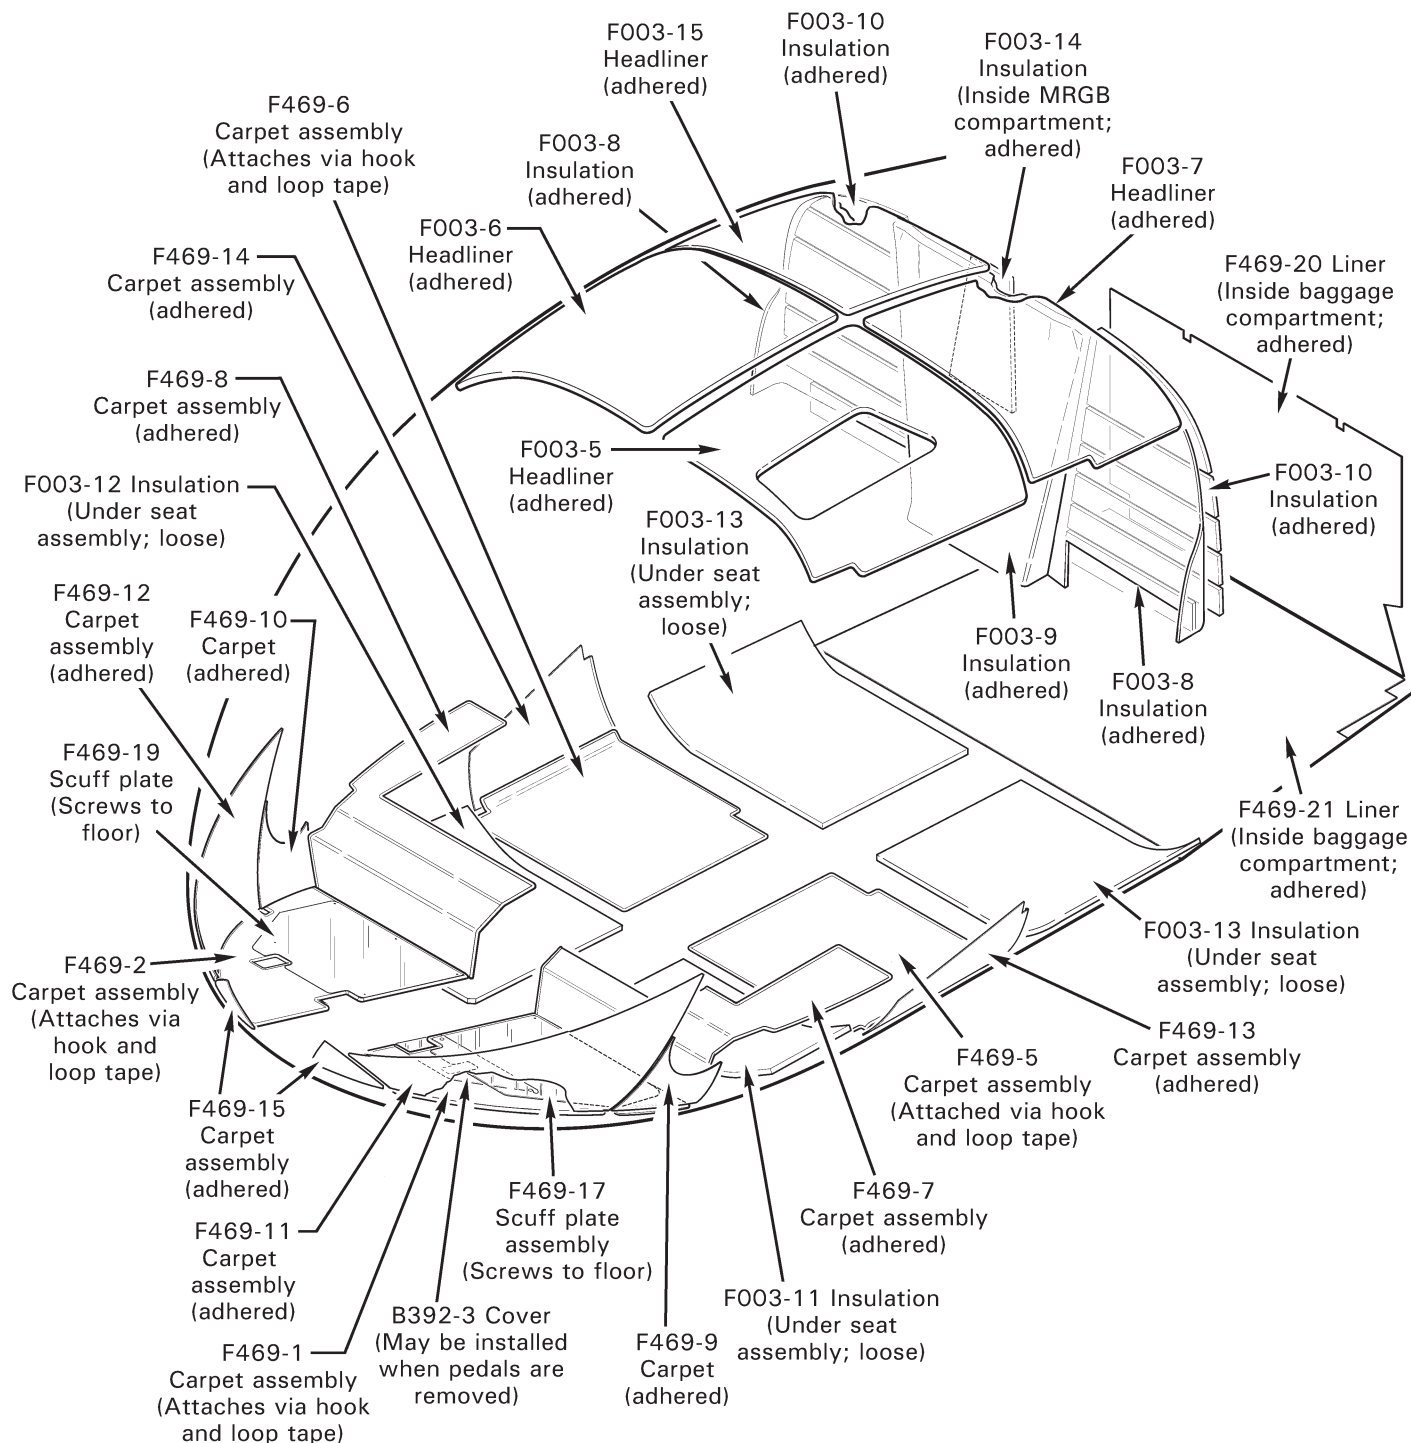

FIGURE 25-2 CARPET AND INSULATION
1. Refer to Figure 25-2. Remove adjustable and/or removable pedals, as required.
1. Refer to Figure 25-2. Attach carpet to floor via hook and loop tape (Velcro).
1. Refer to Figure 25-2. Attach or detach carpet to and from floor via hook and loop tape (Velcro).